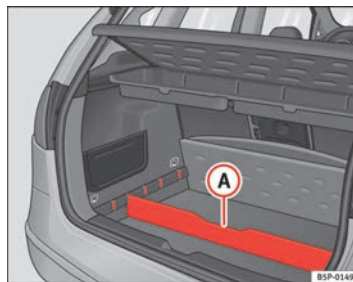

Fig. 106 Luggage compartment divider
- Fit the separator **(A)** ⇒ Fig. 106, into the side grooves depending on the size of the objects to be transported. The on-board tool kit and the spare wheel are located underneath the luggage compartment.